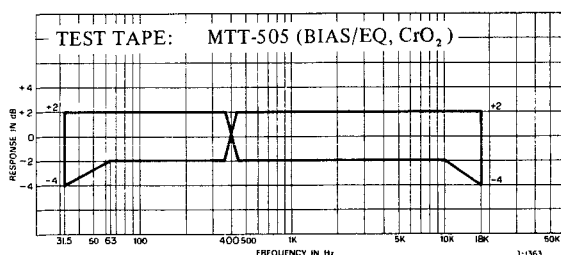

Fig. 6-14 Overall frequency response limits (1)
11. While watching the AC voltmeter, make fine adjusting by turning L307, of both L- and R-channels, so that the 18 kHz signal level satisfies the frequency response limits in Fig. 6-14.
3. Apply and record a test signal required in the Fig. 6-14, at -42 dB (6.15 mV).